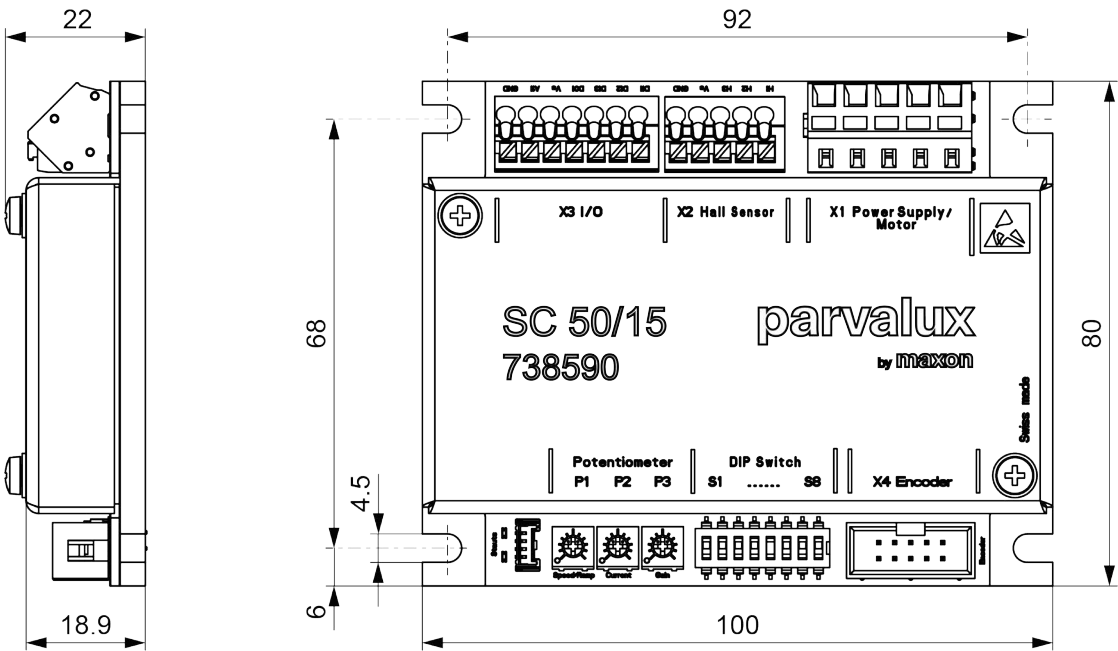

Figure 2-3 Dimensional drawing [mm]
- 2) Use four (4ea) M4 screws to mount the controller. For the drilling pattern see → Figure 2-3 on Page 2-10.